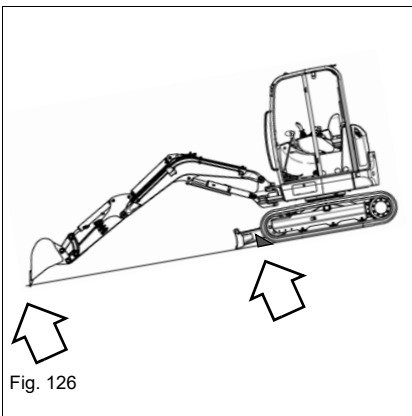

Fig. 126
- Secure the vehicle with wheel chocks (see Fig. 126).